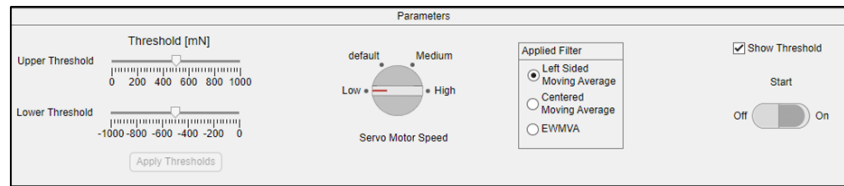

Figure 11: *The tunable force control parameters.*
2. At the bottom of the tab, you can see the force control parameters. Where you can change the upper and lower threshold force limits, the servo motor speed, and the applied filter. See Figure 11.
3. Ensure the “show threshold” box which you can see in Figure 11 is checked to see when the force on the wrist cuff exceeds the upper or lower threshold. 4. Click start. When trying out the force control by flexing and extending your arm you should see something like this: